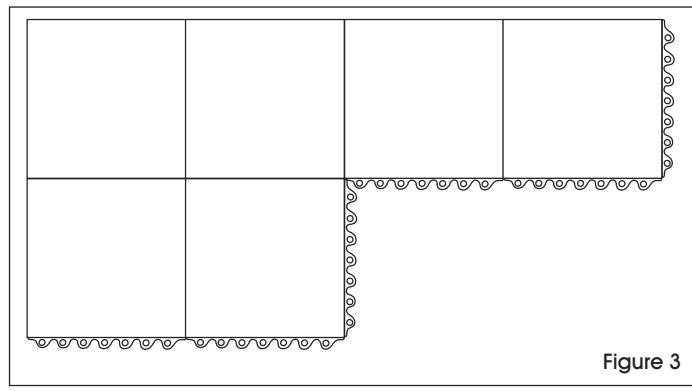

Figure 3
2. Place second tile adjacent to first with sockets of second tile facing pins of first tile. Snap pins into sockets. Continue to install mat tiles one row at a time, snapping pins into sockets. (See Figure 3)